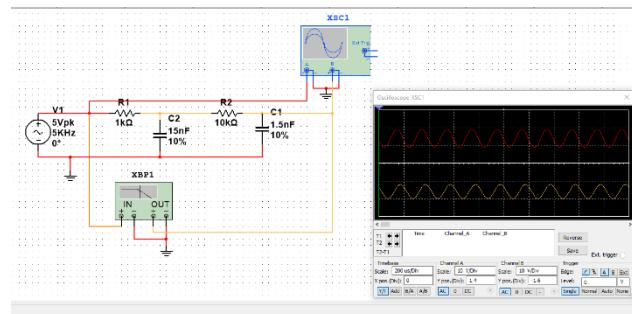

Figure 18: Second Order Low Pass Filter (Input =
Our original circuit has been revised by adding another resistor-capacitor combination (Figure 18). However, adding more capacitors affects our corner frequency. From the following formula, f_c = the new corner frequency:
- Output of RC filter shown in yellow trace (Figure 18).